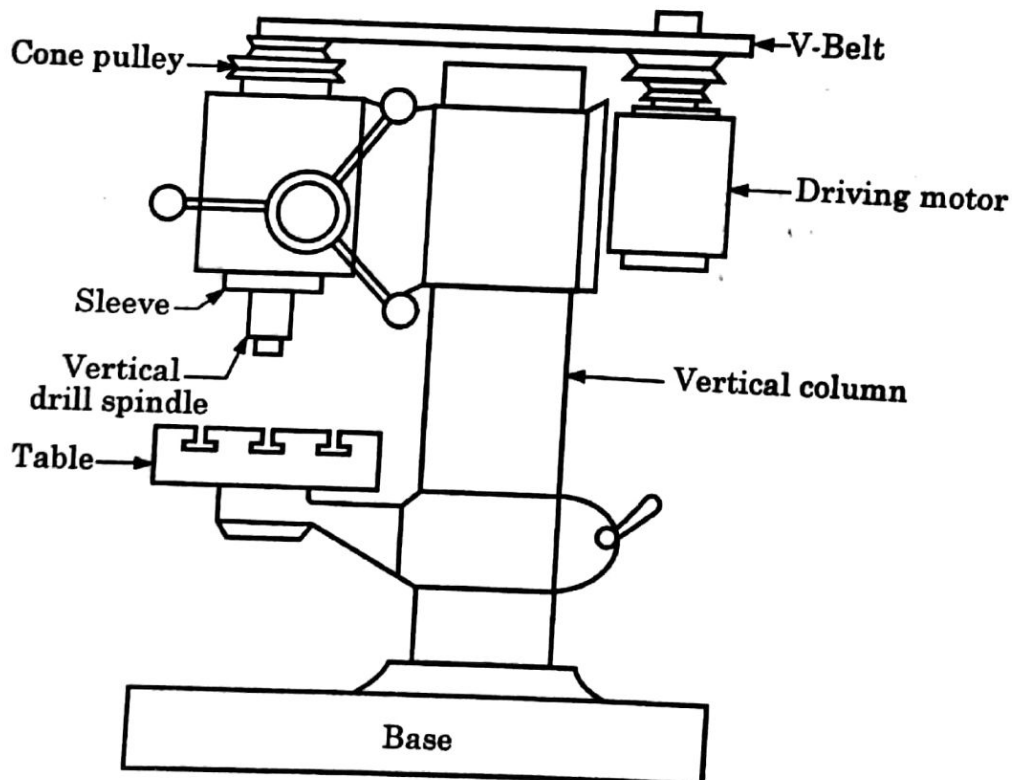

Fig. 2.4 : Sensitive Drilling Machine
2. Sensitive or Bench Drilling Machine : It is a light and simple drilling machine of small height. It is usually fitted on a bench and hence, it is called bench drilling machine. (See fig. 2.4).